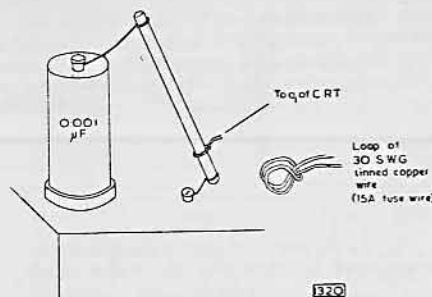

Fig. 4—Method of tapping Metrosil.
5. By adding a tap on the Metrosil resistor which is sometimes employed to stabilise the e.h.t. voltage. The tap may take the form of a small narrow clamp, or it may be made by means of a loop, as shown in Figure 4, of 30 s.w.g. tinned copper wire (15A fuse wire) so that the loop can be tensioned firmly around the body of the Metrosil and soldered in position after adjustment. The clamp or loop should be positioned $\frac{1}{16}$ in. from the earthy end. The tapping point will be found to be critical. It should be adjusted to provide 400 to 500V with respect to the chassis by measurement on a high impedance voltmeter.